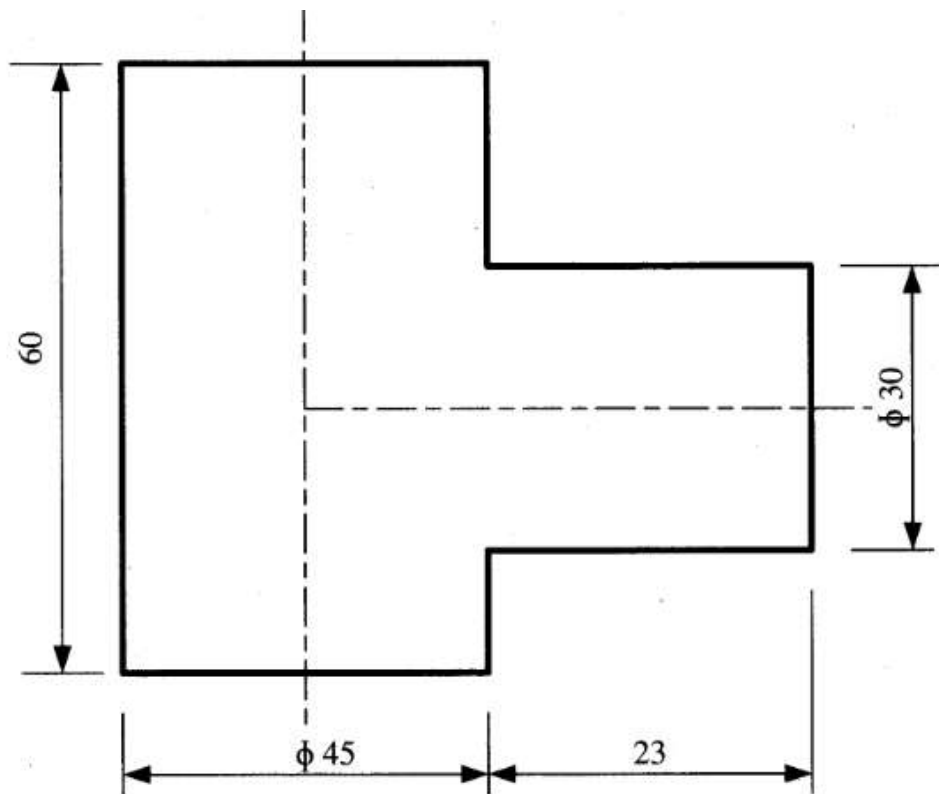

Figure 1.
2. Figure 1 shows two cylinders of unequal diameters which are supposed to be welded at right angle (90°). Construct a line of intersection to lead the welding process.